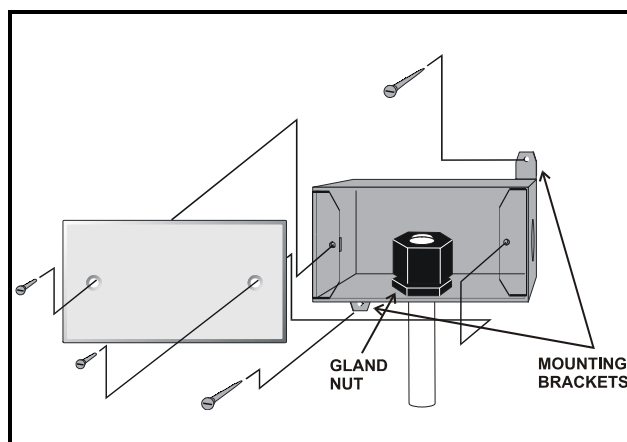

Figure 3-26 - Outdoor RH Sensor - Exploded View
1. Secure the rear side of the enclosure to the outside wall using the two mounting brackets, as shown in **Figure 3-26**. The tube holding the sensor element should point straight down.